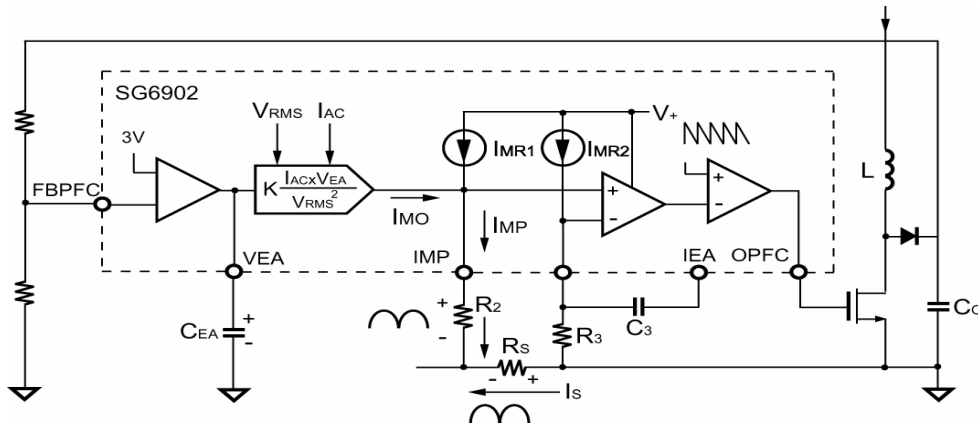

FIG.5 Average current mode control loop
for the PFC booster. With the innovative multi-vector control for voltage loop and *Switching Charge*® multiplier/divider for current reference, excellent input power factor is achieved with good noise immunity and transient response. Figure 5 shows the total control loop for the average-current-mode control circuit of SG6902.
To achieve good power factor, the voltage for  $V_{RMS}$  and  $V_{EA}$  should be kept as DC as possible according to equation (4). In other words, good RC filtering for  $V_{RMS}$  and narrow bandwidth (lower than the line frequency) for voltage loop are suggested for better input current shaping. The trans-conductance error amplifier has output impedance  $Z_O$  (>90kΩ) and a capacitor  $C_{EA}$  (1uF ~ 10uF) should be connected to ground (Fig. 5). This establishes a dominant pole  $f_1$  (equation 6) for the voltage loop.